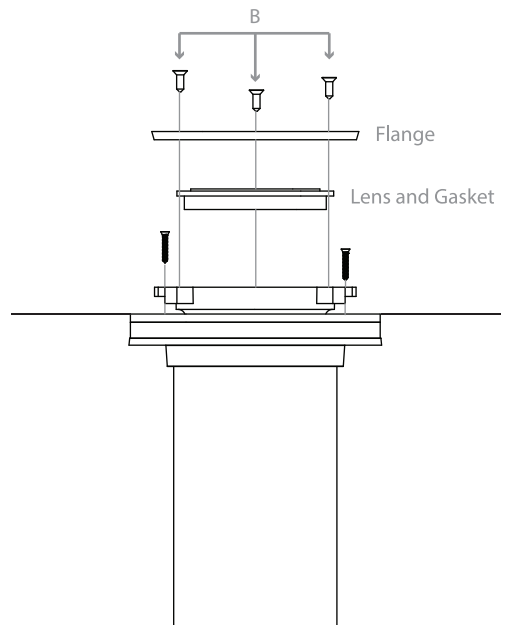

Fig. 4a
Be certain to clean gasket recess before placing Lens and Gasket assembly into the gasket recess in the luminaire (see Fig. 4a). Make sure that the lens and gasket are clean.
Place Flange on top of gasket and lens assembly and tighten the three screws (B) evenly by hand. (See Fig. 4a).